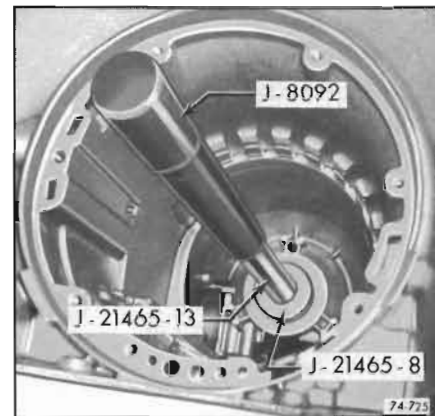

Figure 74-725
a. Thread Extension Handle J-21465-13 into Bushing Remover J-21465-8 using Drive Handle J-8092 remove bushing. See Figure 74-725.